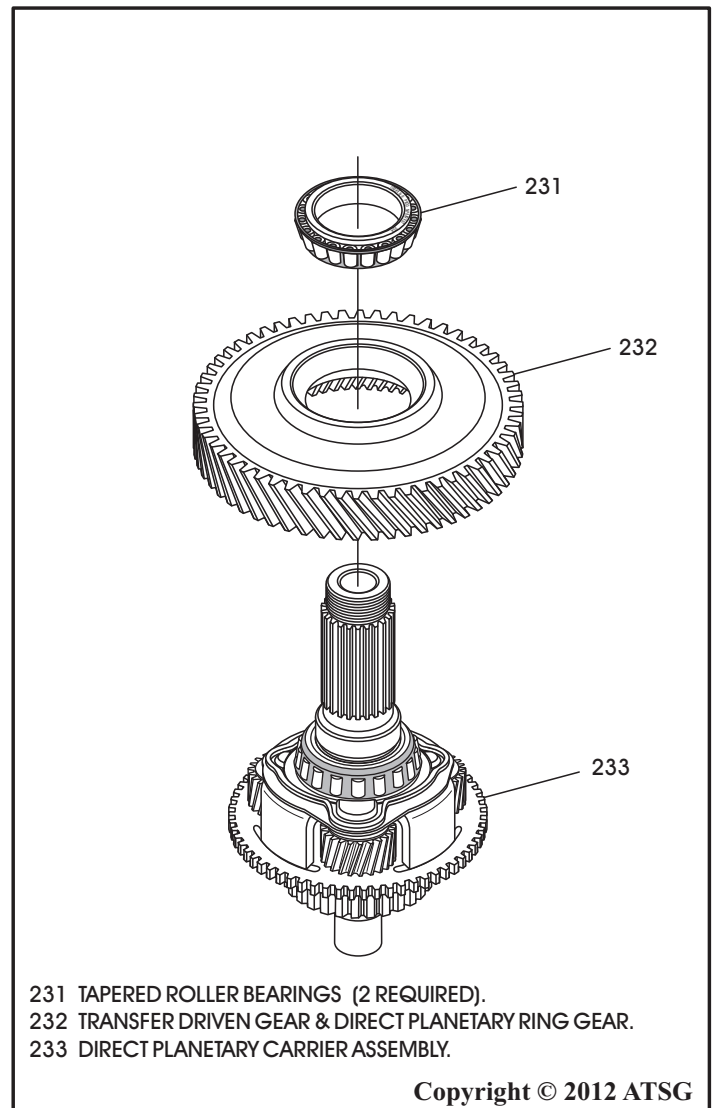

Figure 172
8. Again press the direct planetary carrier shaft out and remove the tapered roller bearing and driven transfer gear, as shown in Figure 172.